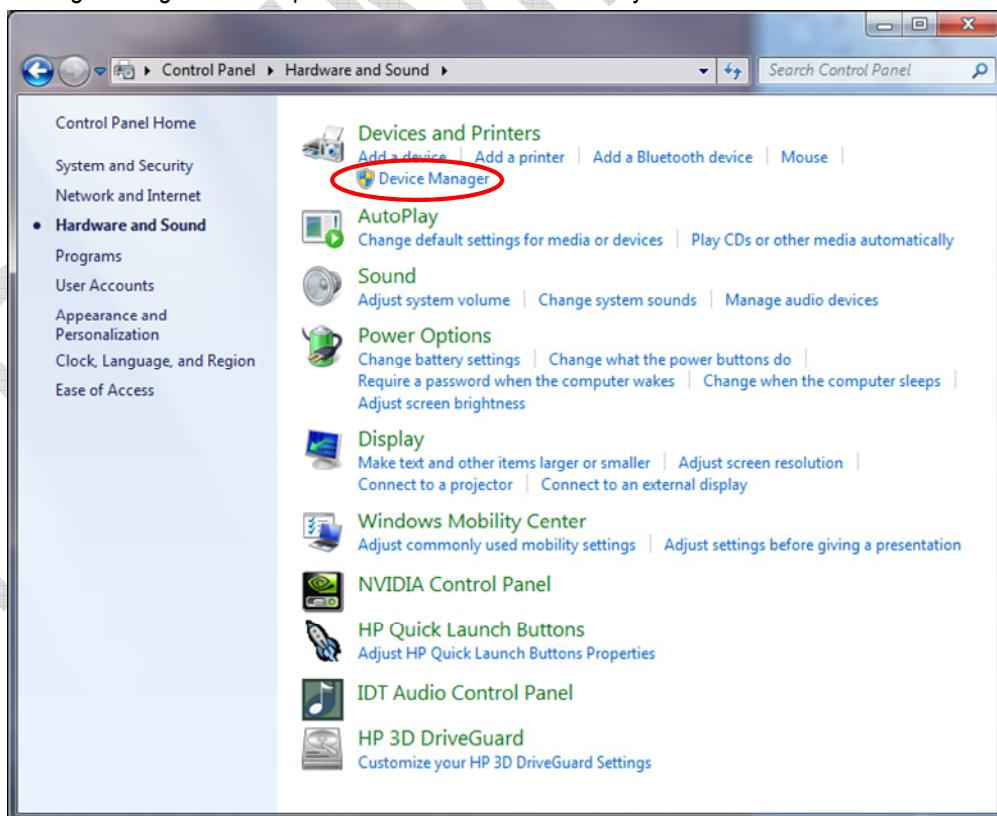

Figure 25. Checking the revision of the driver using Device Manager shown is a Win 7 PC
5. **Update the Driver.** If you have a previous version of the eval tool, the driver will probably need to be updated. The way to check on the version of the driver is to open up the Device Manager as shown in Figure 23. Expand the USB Bridge Devices and double click on it. Click on the Driver Tab, and be sure its' Driver Date is 7/5/2009 and Version is 7.0.0.0. See Figure 25 through 28. If it is not version 7.0.0.0 then go to directory C:\Program Files\IDT Wireless Power Solution\Drv as shown in Figure 11 and double click the DPInst.exe file. The system will then go through a driver update install. Be sure to reboot your machine once the install is complete.